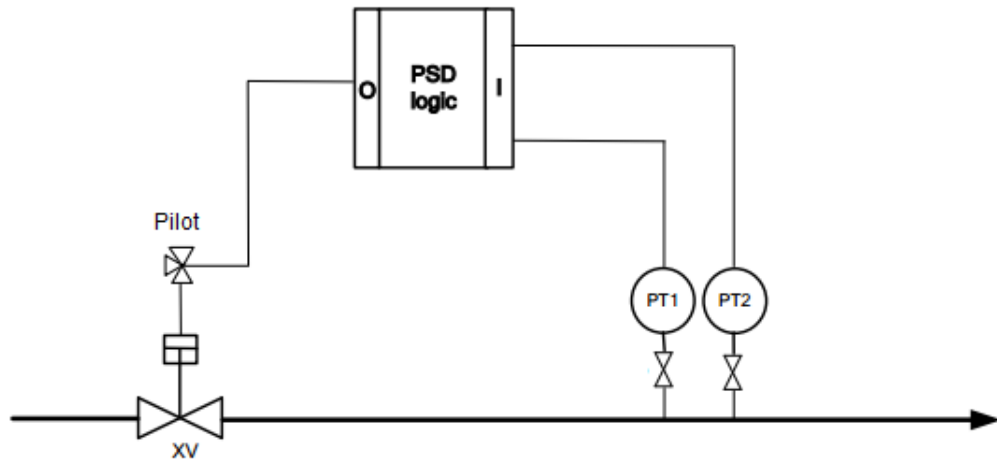

Figure 9.1: Process shutdown (PSD) function
Table 9.1: Failure rates for the PSD system components in Figure 9.1.
Consider a PSD function that shall close one shutdown valve (XV) upon pipeline pressure above specified setpoint, as shown in Fig. 9.1. The pressure transmitters are voted 1oo2. All the components are proof tested at the same time with an interval of 12 months. The failure data of the components are given in Table 9.1, and for simplicity we include the contribution from DU failures only.